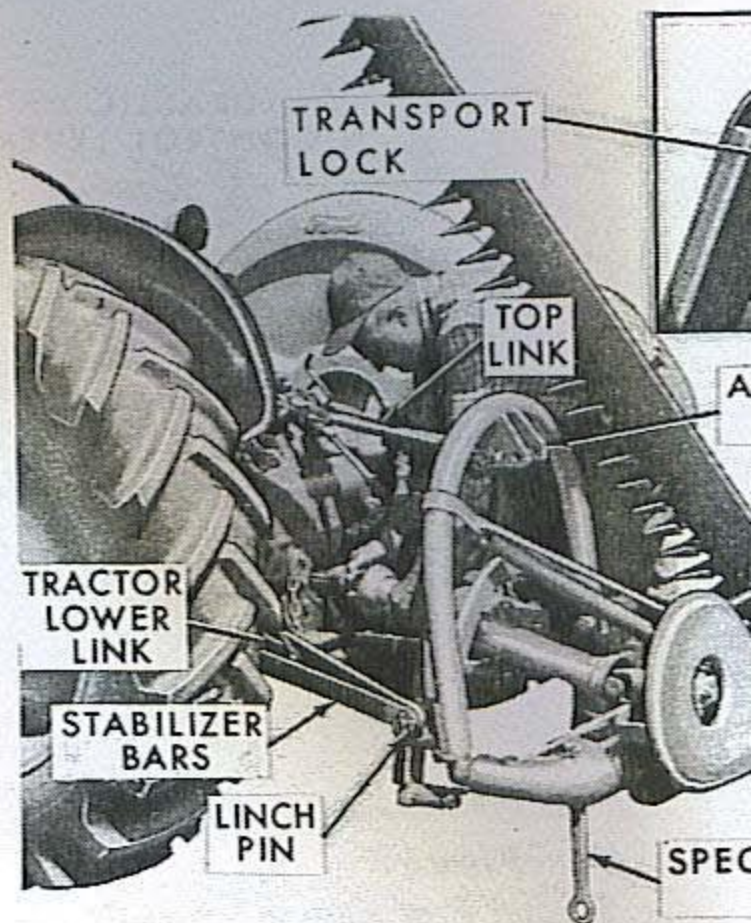

Figure 4
4. Position the stabilizers (if bar type) on the link pins and secure with linch pins as shown in Figure 4.
5. Attach the tractor top link to the mower attaching bracket with a link pin and secure in place with a linch pin. See Figure 4.
1. Raise the cutter bar to the transport position and secure with the cutter bar transport lock, as shown in the Insert, Figure 4.
2. Position the special mower wrench in the lower frame, as shown in Figure 4. Then, lower the mower with the tractor hydraulic control lever until the mower is resting on the wrench.
4. Depress the spring-loaded lock pin on the front universal joint of the P.T.O. and slide the joint off the tractor P.T.O. shaft, as shown in Figure 4.
6. Detach the top link, Figure 4, from the attaching bracket.
7. Detach the stabilizer bars and the top link, Figure 4, from the mower.
The transport lock assembly, Figure 4, is used to provide safe transport for the mower when mounted on 9N, 2N, or 8N tractors. It is also used for other tractor not equipped with a transport lock assembly.